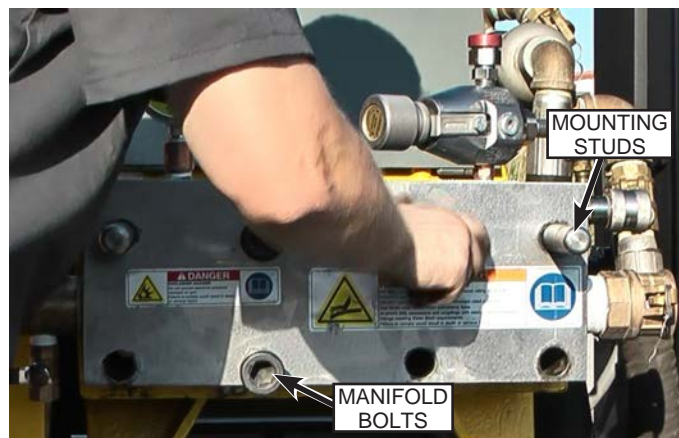

Fig. 57: Manifold Installation
21. Install the manifold bolts (Fig. 57) in the open holes and hand-tighten.